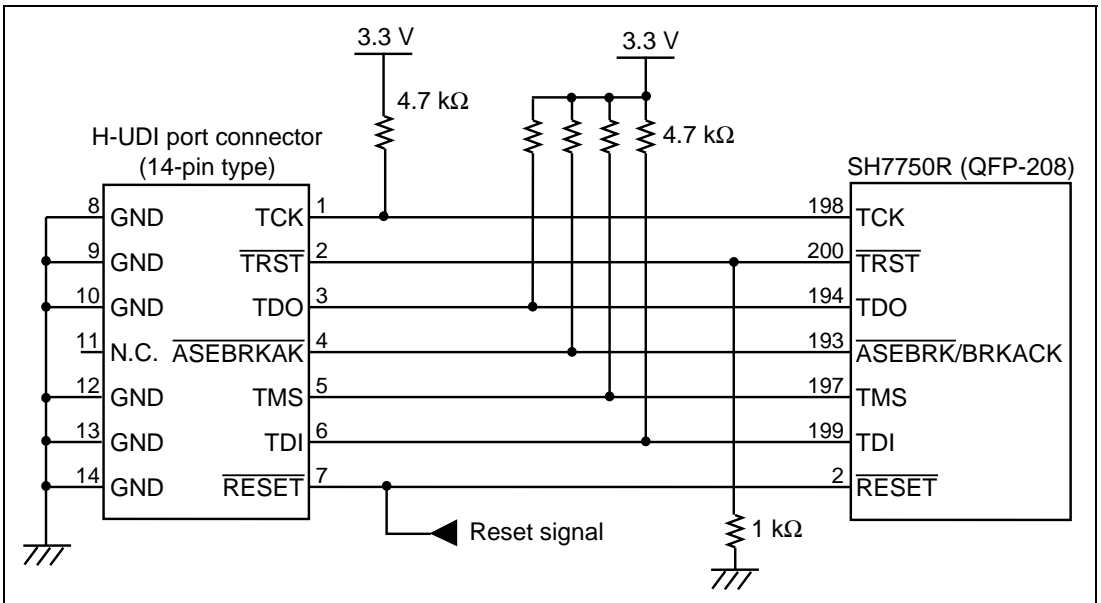

Figure 1.2 Recommended Circuit for Connection between the H-UDI Port Connector and MPU
Figure 1.2 shows a recommended circuit for connection between the H-UDI port connector and the MPU.
5. The resistance values shown in figure 1.2 are recommended.